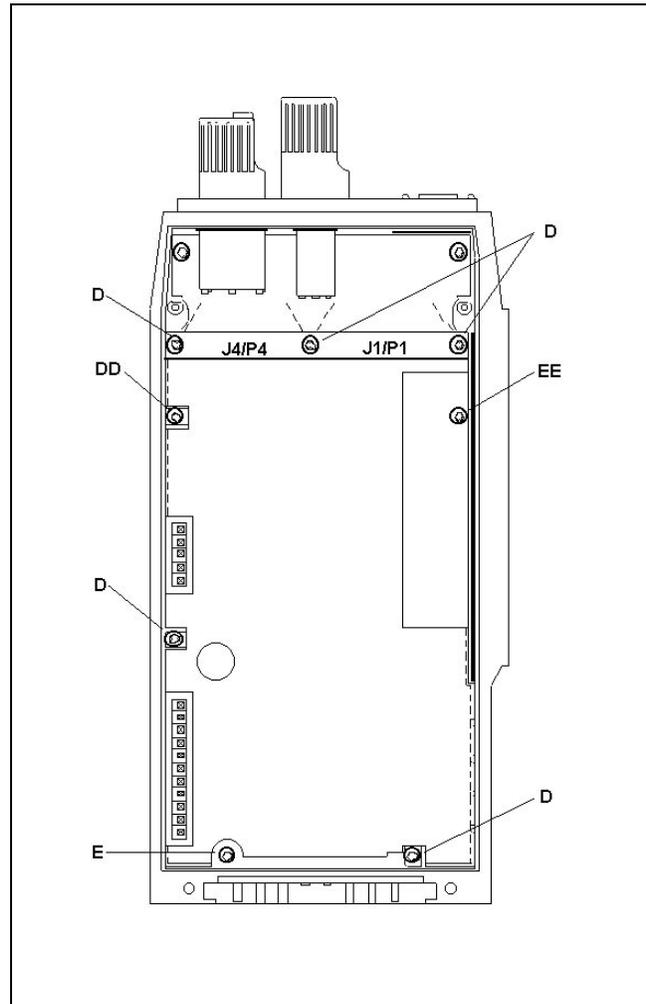

Figure 8 - Control Board Access
To gain partial access to the Control Board, remove the five (5) screws (D) securing the shield and board. An earlier Front Cover Assembly has an additional screw located just below connectors J4/P4 (DD). See Figure 8. Remove the shield.